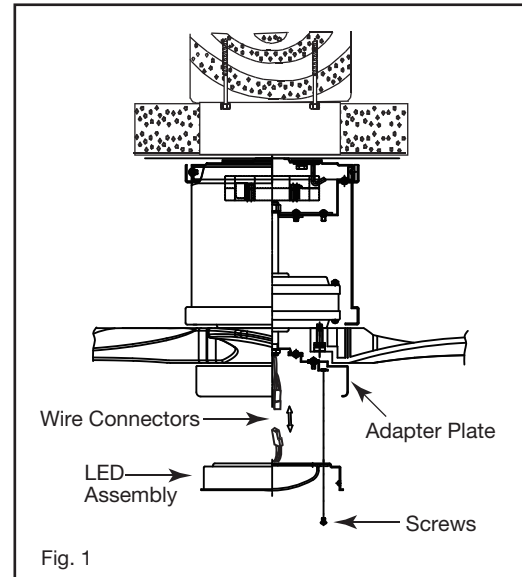

Fig. 1
- 3 Place the key holes on the LED assembly over the 2 screws previously loosened, turn the light plate until it locks in place at the narrow section of the key holes. Secure by tightening the 2 screws previously loosened and the one previously removed. (Fig. 1)
- 1 Select a desired location. Use the wall plate to mark the location of the mounting holes. Plastic wall anchors or mounting screws are needed for this application. (Fig. 1)